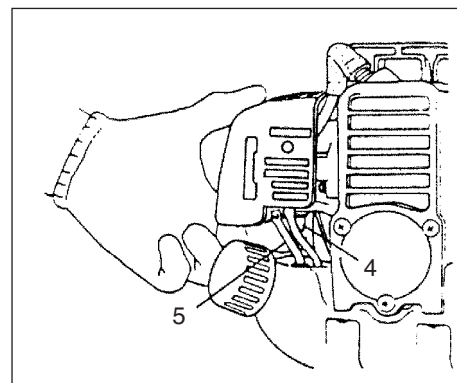

Fig. 2-2C
*Push priming bulb (4) several times so that fuel flows through return pipe (5) (if so equipped)(Fig. 2-2C)
2. With the safety trigger (2) pressed (if so equipped), pull throttle trigger and push throttle lock (3), then slowly release the throttle trigger first, then the safety trigger. This will lock the throttle in starting position.
3. Set choke lever to CLOSED position (4).